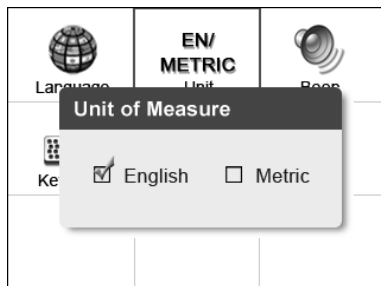

Figure 3.4
- 2) From **Unit of Measure** screen, use the **LEFT/RIGHT** scroll button to select the desired unit of measurement. (Figure 3.4)